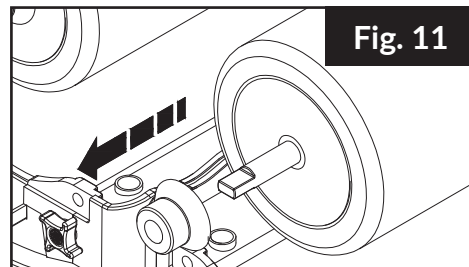

Fig. 11
4. Gently pull on the Spiral Blade Gasket to remove. (Fig. 11)